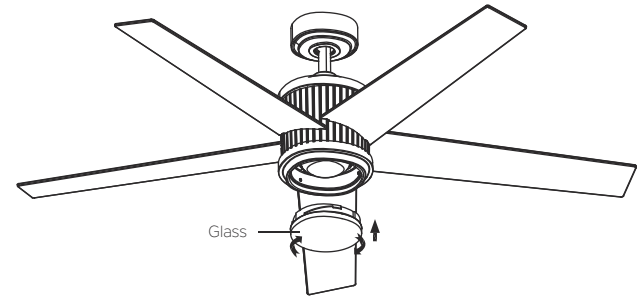

Fig. 21
**Step 3.** Secure the glass to switch housing by twisting in a clockwise direction, twist the glass gradually until it snaps on to the switch housing. Do not over-tighten. (Fig. 21)